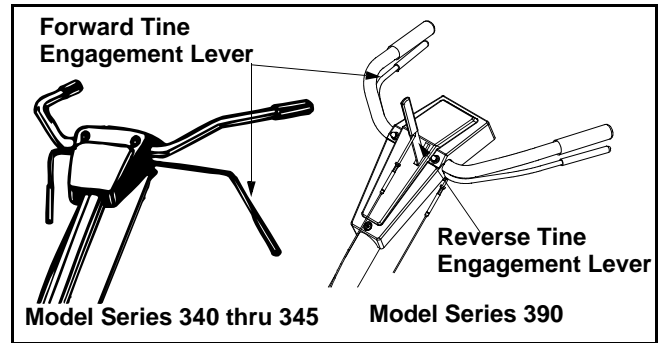

Figure 6
- With tine engagement handle in neutral (released) as shown in Figure 6, pull the starter rope several times. **The tines should not turn.** If they turn forward, loosen the hex nut on the forward cable (underneath the handle assembly). If they turn toward the rear (model series 390 only), loosen the hex nut on the reverse cable (above the handle
assembly). Unthread the rod from the cable 2 or 3 turns. Retighten the hex nut, and check again for correct adjustment. See Figure 6.
- Make certain all controls are in the neutral position (released). See Figure 6.